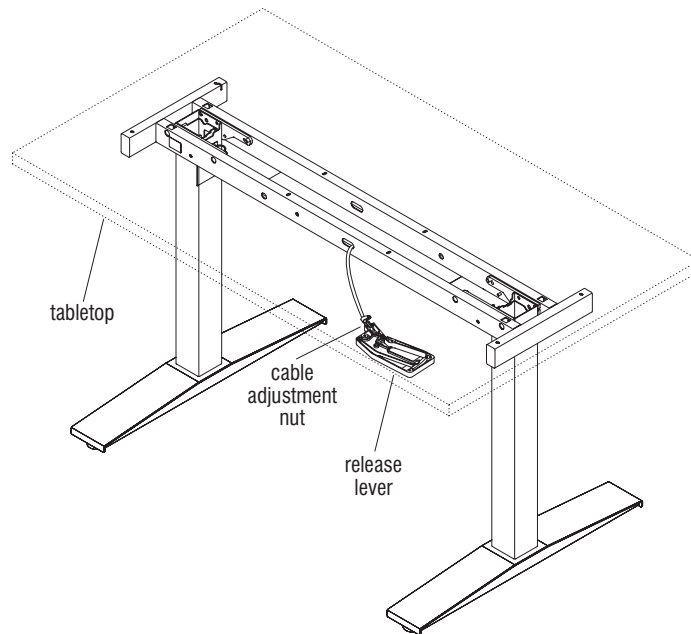

Figure 8
1. The table height can be adjusted by pulling the release lever toward you with one hand and using the opposite hand to raise or lower the table (Figure 8).
- If table stays locked in one place or adjusts slowly, turn cable adjustment nut out $\frac{1}{2}$ turn and recheck (Figure 8).